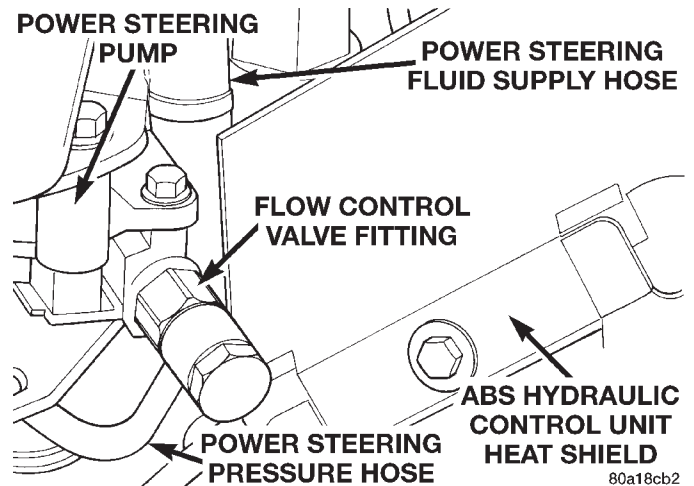

Fig. 5 Power Steering Pump Pressure Hose
- (1) Remove the power steering fluid pressure hose from power steering pump pressure fitting (Fig. 5).
- (4) Install power steering fluid pressure hose on flow control valve fitting (Fig. 5). Tighten the banjo bolt to a torque of 34 N·m (25 ft. lbs.).